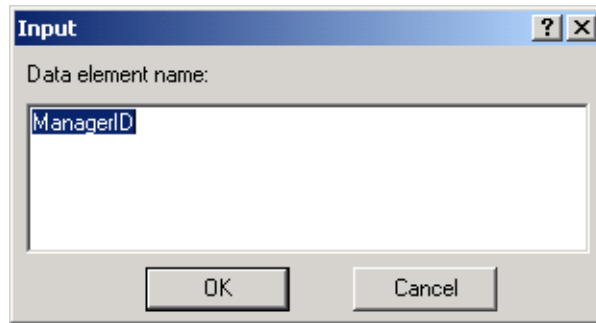

Figure 37-12. The Input dialog with a data element that will be providing input to the method.
- ❶ In the **Value** column, right-click and select **Add** from the drop-down menu.
- ❷ Type the value that you want to be read to the method.
- c. If the parameter is of type “**Out**,” the value should be a data element of the same data type as that of the parameter (refer to Figure 37-12 below). You can also click and drag a data element from the available data elements window and drop it in the **Data Element** column.